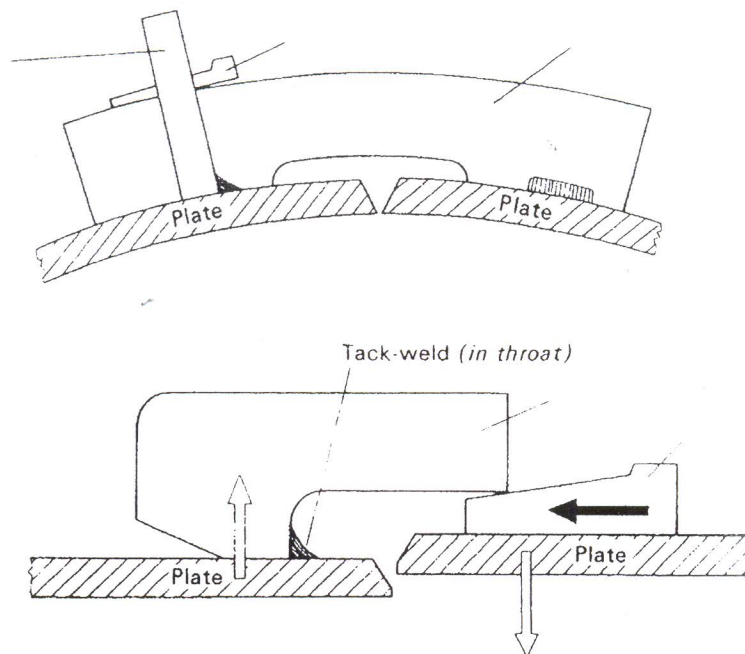

Figure 3
- (b) In figure 3, name the type of device that commonly use for welding process and fill in the blank.